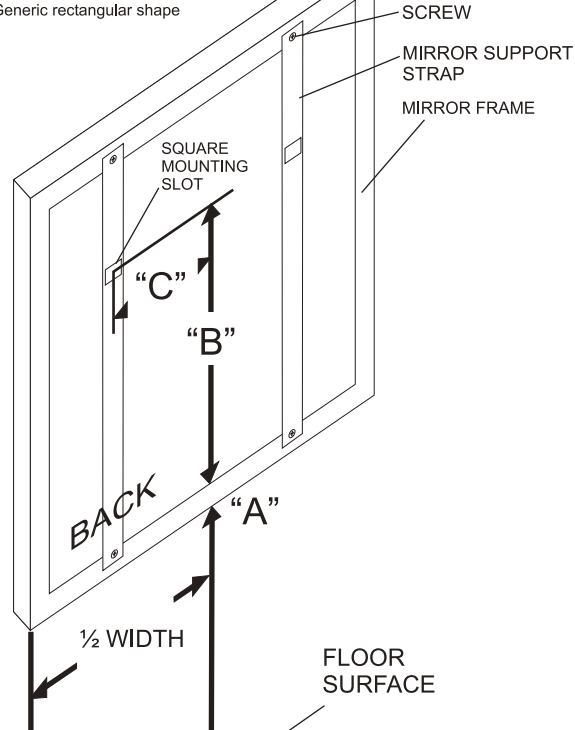

FIGURE 3. (Horizontal)
1. (Refer to FIGURE 3) Lift and position where MIRROR will reside on wall surface and with a tape measure, mark distance from floor to the bottom edge of frame with a pencil. Mark should be located at a point representing $\frac{1}{2}$ of mirror width. (MARK "A") **(Please note Quozel recommends (2) people for this step)**
2. Place the MIRROR on flat surface with back facing you. Measure the distance from the bottom edge to the center of (1) RECTANGULAR MOUNTING SLOT (located on underside of SUPPORT BAR) (Distance "B" FIGURE 3). With tape measure, add this distance to MARK "A" on wall surface and mark with pencil. This represents the mirror horizontal centerline.
3. Measure the center distance from both RECTANGULAR MOUNTING SLOTS. Take this distance and divide by 2. Add each half of slot distance to each side of centerline (Distance "C" FIGURE 3). Refer to Step 4-9 above to complete installation.